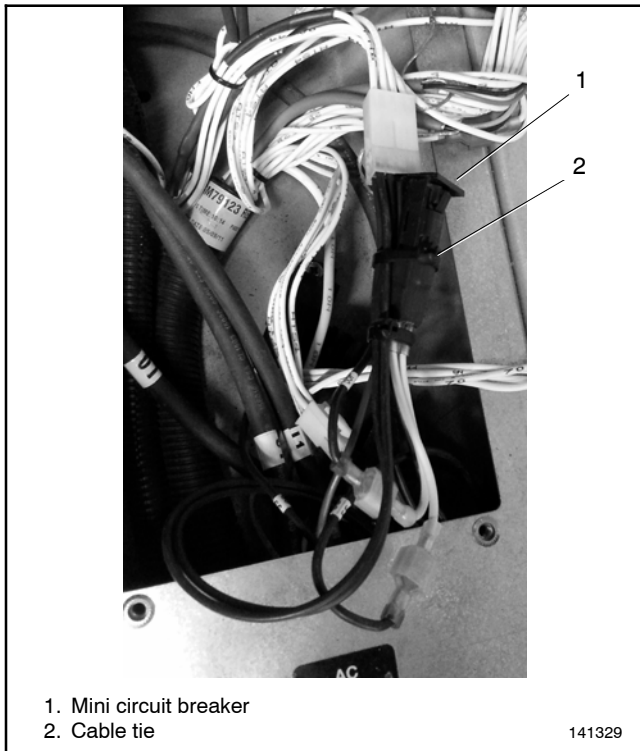

Figure 22 Mini Circuit Breaker
- e. Use a cable tie to secure the mini circuit breaker to the harness as shown in Figure 22.
14. Install the controller onto the junction box using the two (2) screws removed in step 6.